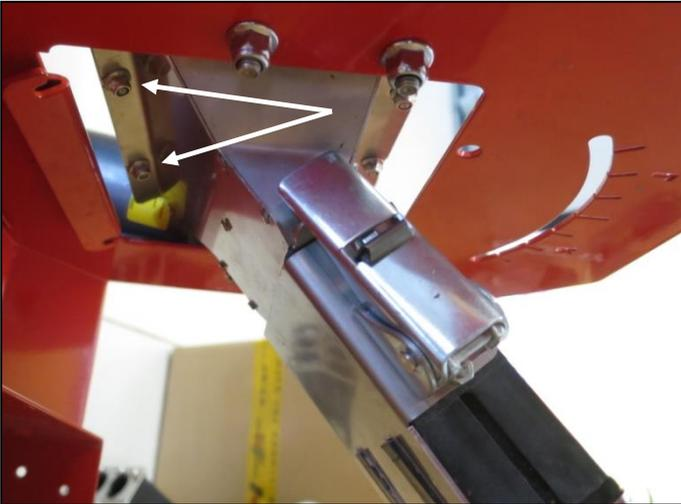
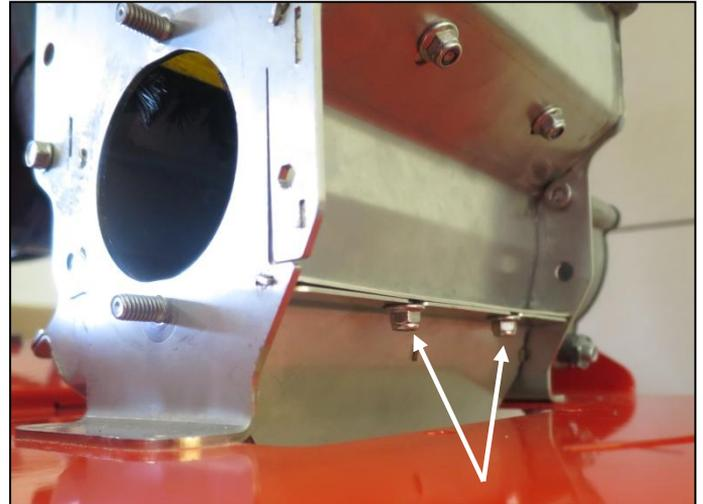
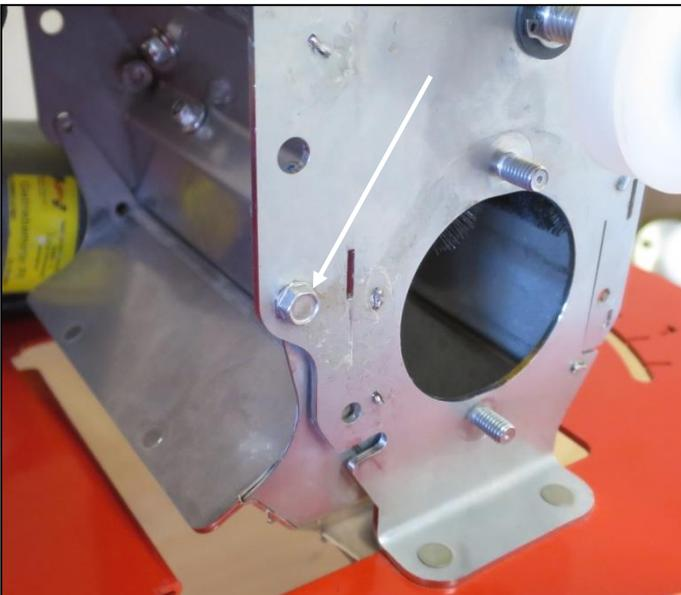

Fig.: 98
Fig.: 99
Fig.: 100
- Fasten the blower fan cover plate on the bottom side with the enclosed flange nuts (Fig.: 98). With the previously loosened flange nuts, fasten the air channel on the front side (Fig.: 99) and on the sides with one hexagon bolt respectively (Fig.: 100).